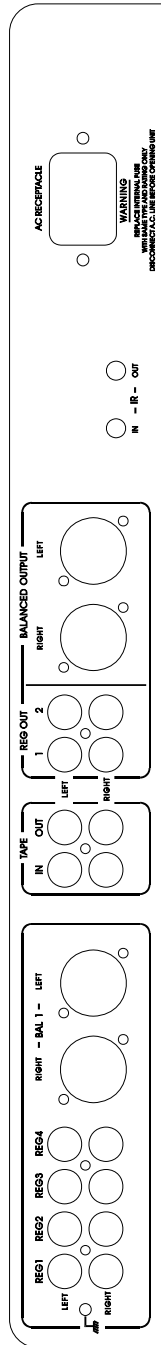

Fig 3: C-303 back view
The input jacks are clearly marked on the back of the **C-303**. The following inputs are provided: REG 1, REG 2, REG 3, REG 4, BAL 1, BAL 2 and TAPE (see fig. 3, page 14).
This will permit you to install an outboard infra-red sensor and therefore be able to control the **C-303** remotely from another room where the outboard IR sensor has been installed. These connections will be found to the left beside the AC power inlet at the back of the unit (see fig.3, page 15).
The Classé **C-303** preamplifier has two (2) regular (single-ended) and one (1) balanced outputs (see fig. 3, page 15). Both single ended and balanced outputs are working at all times, and may be used separately, or simultaneously.